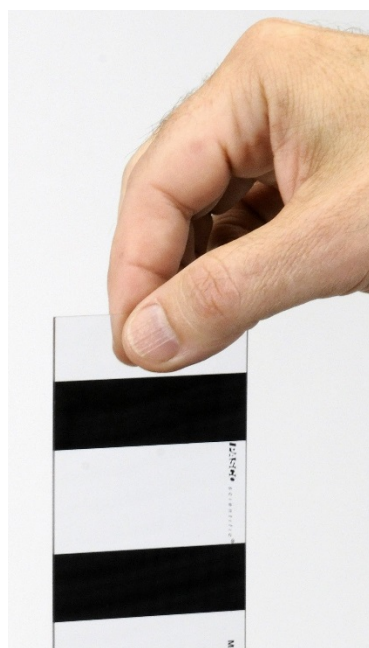

Figure 3. Hold in Center
5. Practice dropping the Picket Fence through the Photogate. Hold the Picket Fence at one end between thumb and forefinger, as shown in Figure 3. The Picket Fence must hang vertical, so that when it is released, it will fall straight without rotating. Make sure the bottom edge of the Picket Fence is just above the Photogate beam when you let go.